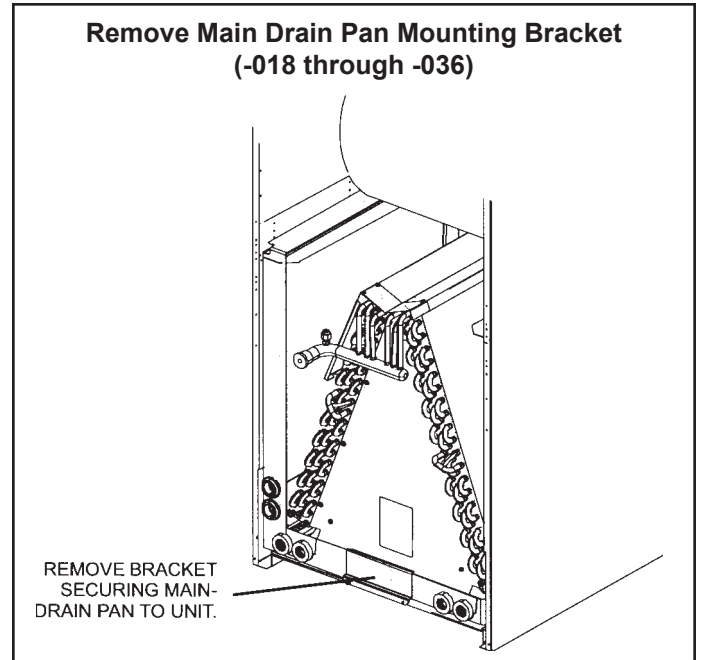

Figure 4
2. Remove braket(s) securing pan(s) to unit as illustrated in Figures 4 and 5.